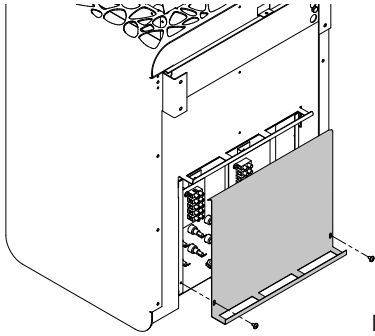

Fig. 4
- Open the cover of the terminal box - remove 2 screws. (Fig. 4)